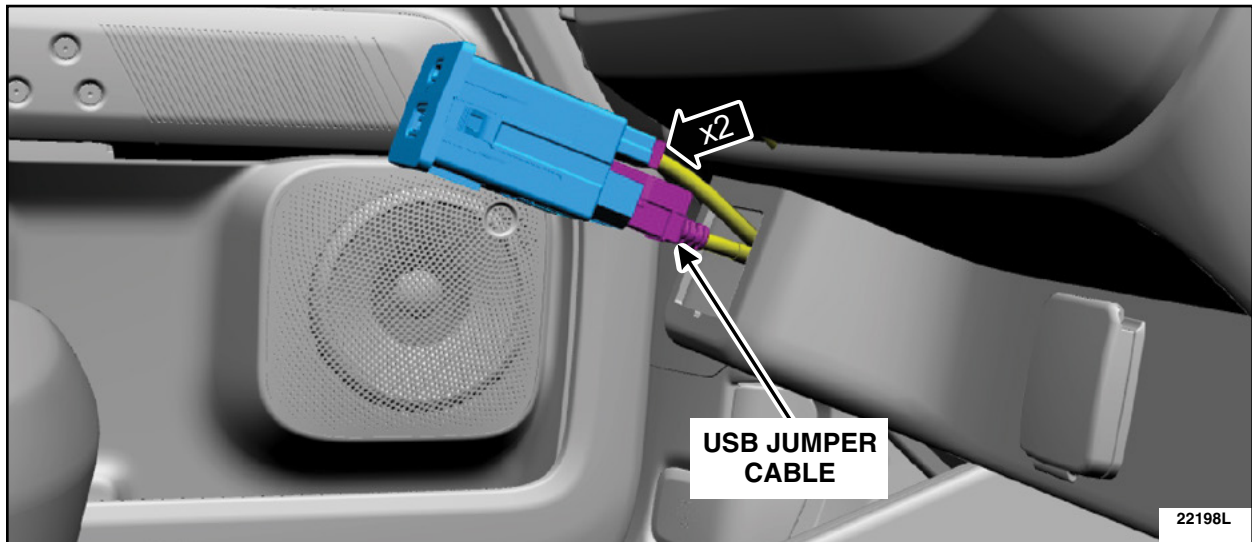

FIGURE 11
9. Connect the electrical connectors to the media hub. See Figure 11.